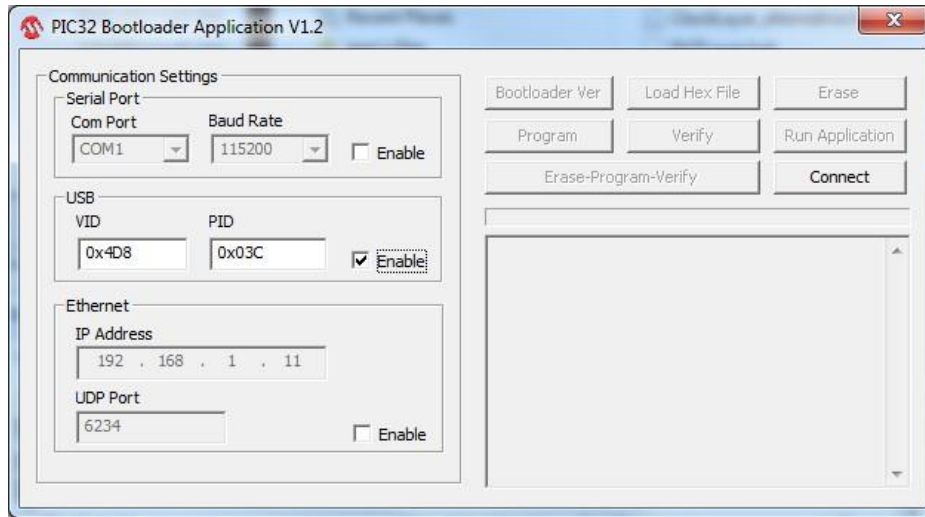

Figure 38: Connect Bootloader Software
4. Otherwise, attach a USB cable to the board and press “Enable” check box in the USB tab of the GUI then press on “Connect” as shown in Figure 38.